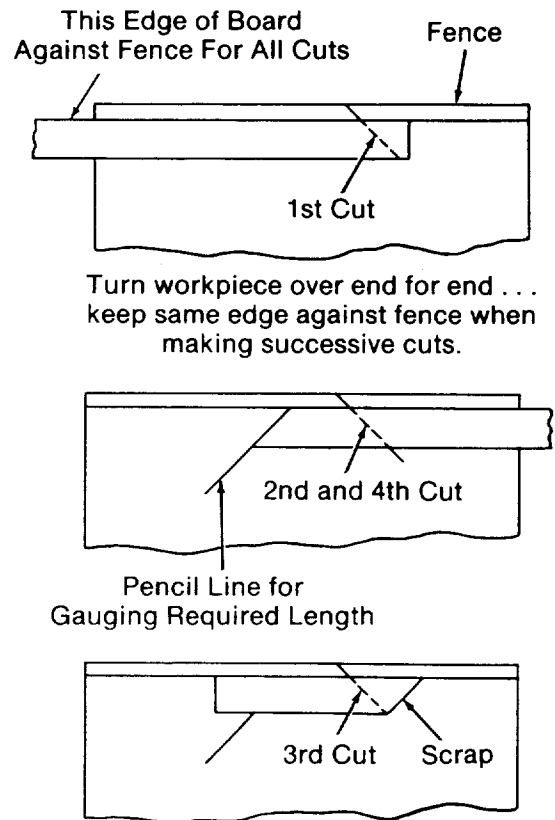

Fig. 171 - Making a 4-Sided Frame
3. Place the same edge of the workpiece against the fence for all cuts. Make the first cut at one end of the workpiece, then flip the workpiece over and make the second cut from the other end. Continue this way until all four cuts are made. (Figure 171)